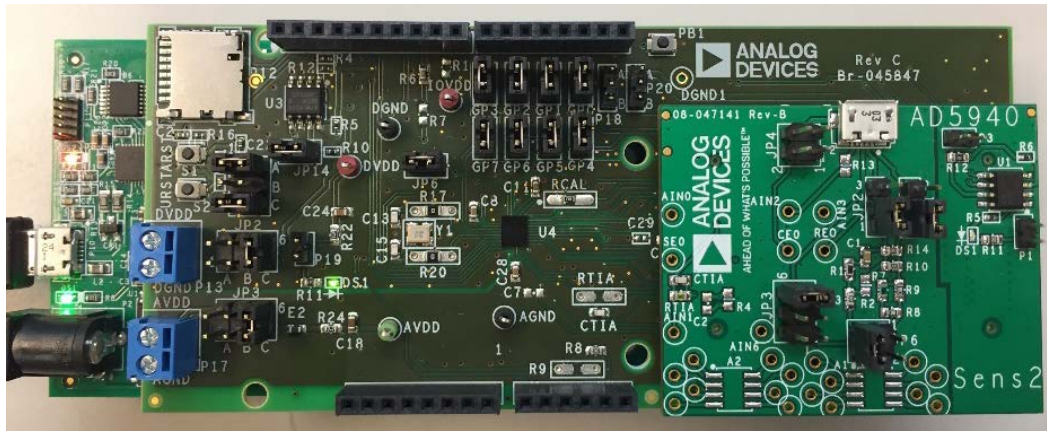

Figure 37. Hardware Setup for Amperometry Validation Test
2. Plug the AD5940Sens2 daughter card into the AD5940ARDZ board as in Figure 37.